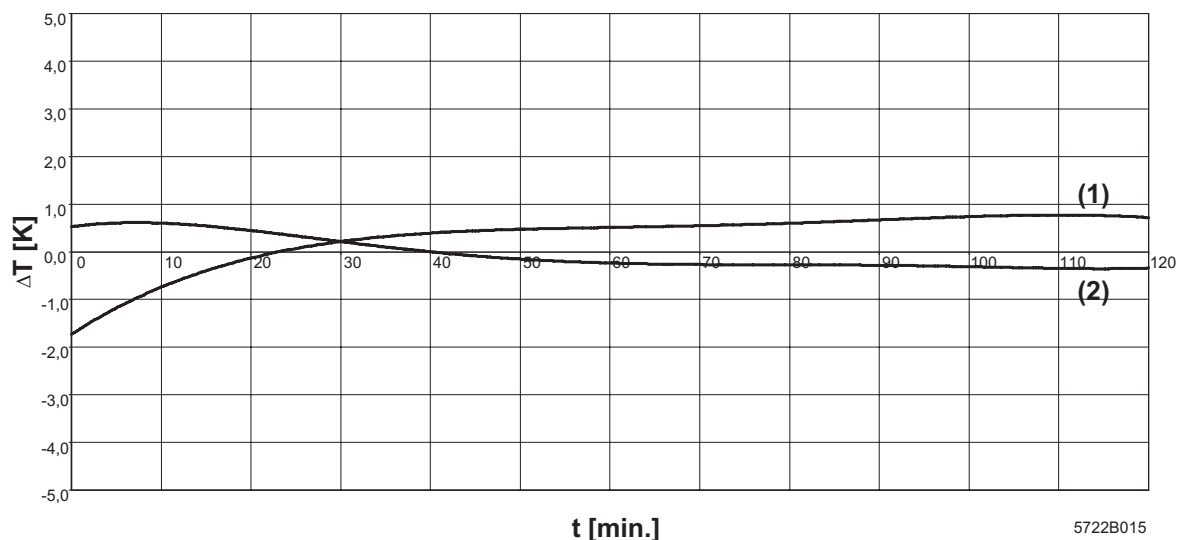

Figure 10 Transient response of the IB IL TEMP 2 UTH terminal
The curve displaying the transient response, is shown in Figure 10.
- The total system error for an absolute temperature measurement - as displayed in Figure 10 - comprises the sensor tolerance, the device error and the cold junction error.
- (1) Curve for channel 1
- (2) Curve for channel 2